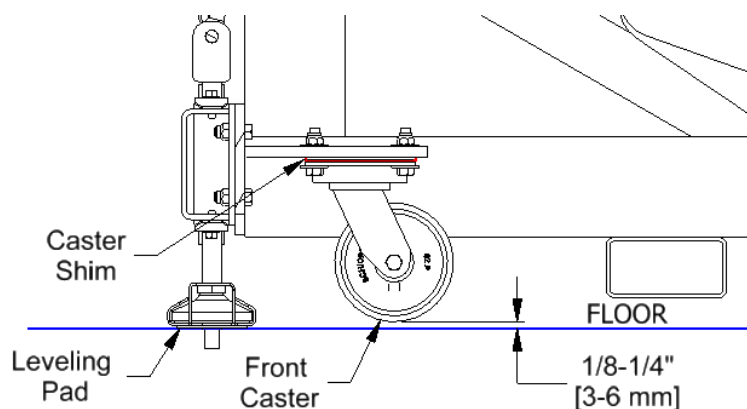

Figure 4
- a. If Leveling Pad does not touch the floor, remove a Caster Shim from under the Front Casters Mount as shown in figure 4. Goal height adjustment should be readjusted.